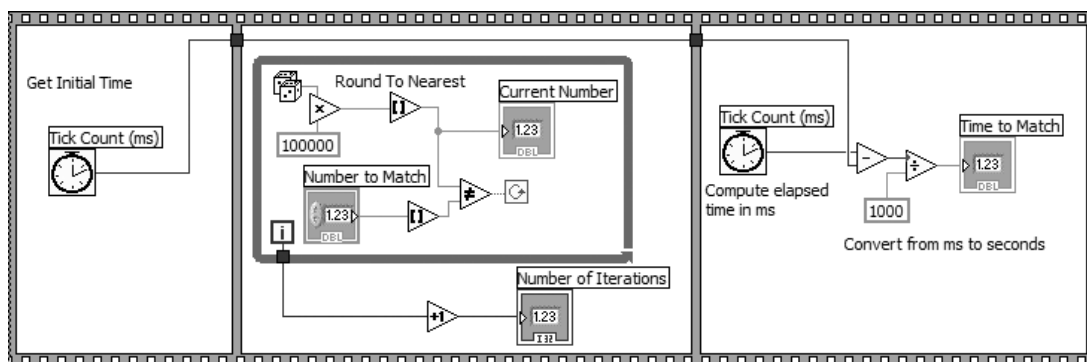

Figure 6.56
3. Open the diagram window and build the block diagram shown in Figure 6.56.